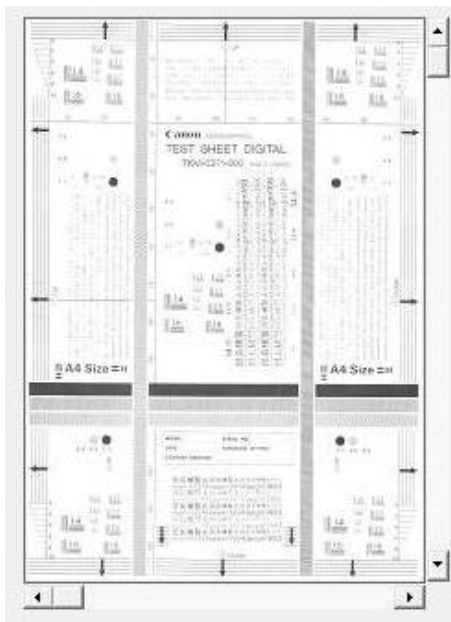

Figure 5-257
- 4) The scanned image is displayed. (Refer to Figure 5-257)